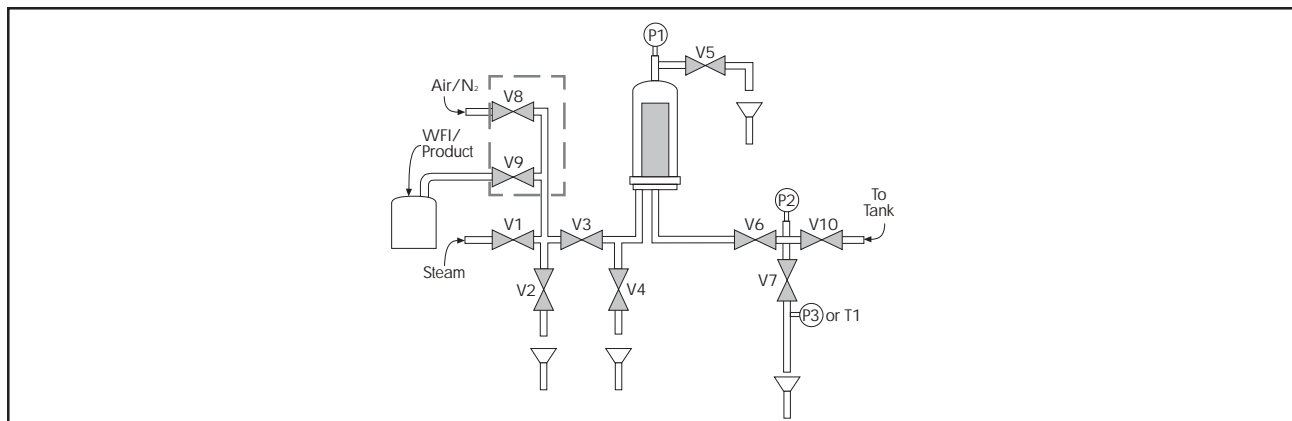

Figure 4-2: Typical sterile filter cartridge and housing assembly for pressure tank wetting
This wetting procedure is for cartridges and capsules. (See Figure 4-2.) The figure illustrates the cartridge wetting process. However, you could easily replace the cartridge/housing surrounded by dashes with a capsule filter.
- Water (or validated alternate wetting fluid) can deliver at least 1 liter/minute per ft² of effective filter surface area at 20 psig (1.4 bar). This can be supplied by using a pressure vessel or a peristaltic pump (See V9 in Figure 4-2).